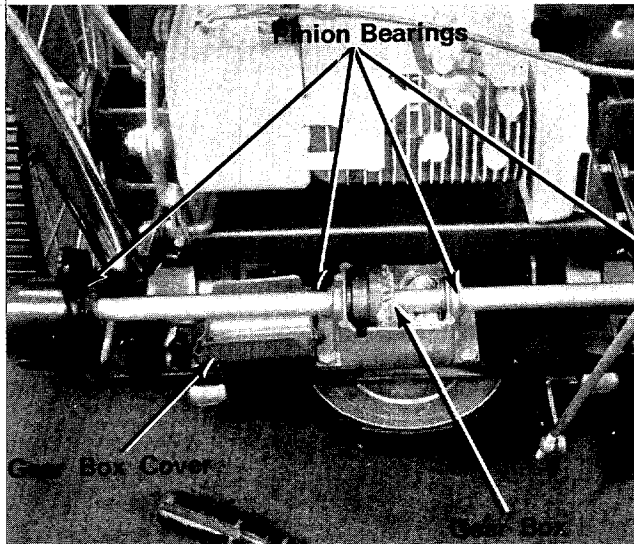

FIGURE 18
**Pinion Bearings**—Lubricate with a few drops of engine oil once a season. (See figure 18.)